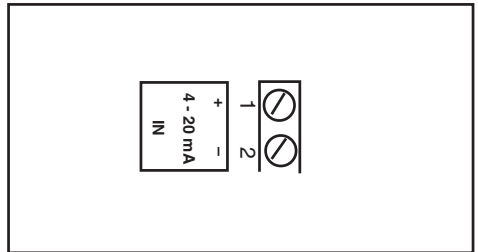

Figure 8. Connections
2. Supply air should meet IEC 770 or ISA 7.0.01 requirements. A coalescing filter should be installed in front of the supply air connection (Figure 8). Now connect the air supply to the filter, which is connected to the **PMV D20** positioner.
5. Connect the outlet connector (Figure 8) of the positioner with tubing, independent of the action (direct or reverse).
NOTE: *The input loop current signal to the PMVD20 should be in shielded cable. Shields must be tied to a ground at only one end of the cable to provide a place for environmental electrical noise to be removed from the cable. In general, shield wire should be connected at the source. (Figure 8).*